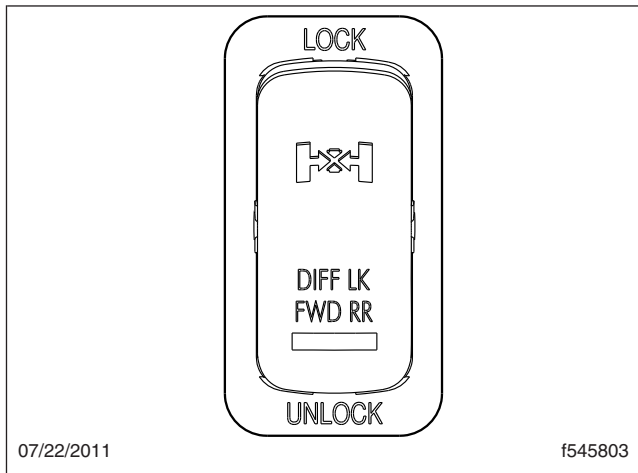

Fig. 16.1, Forward Drive Axle Differential Lock Switch
- a switch to control the differential lock on the forward drive axle (see Fig. 16.1).